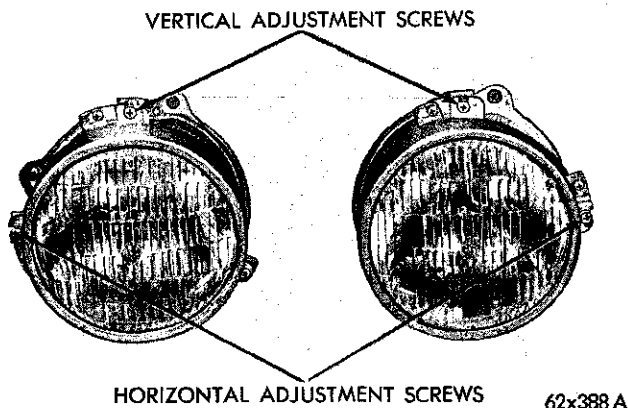

Fig. 4—Headlamp Adjustment Points
4. ADJUSTING THE HEADLAMPS (Figure 4)
(2) While sighting through the viewing port of the aimer, turn the horizontal adjusting screw (Fig. 4) on the headlamp until the split image target line merges into one unbroken line.